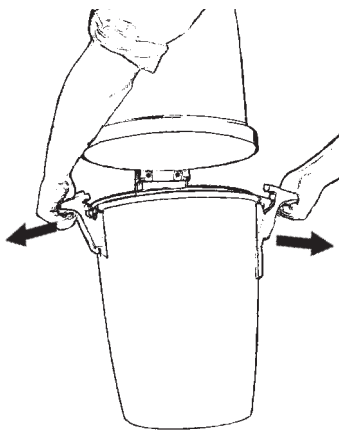

Fig. 20
2. Release the two handles clamping the dust container. Free them by pulling the handles outwards away from the container, Fig. 20.